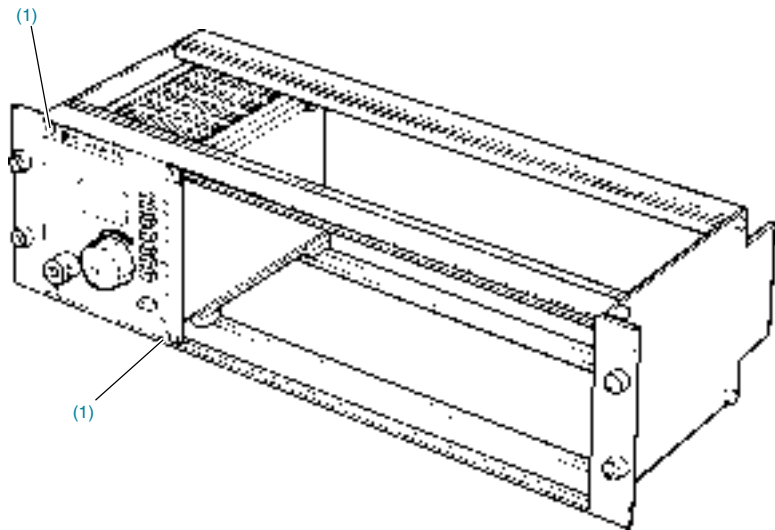

Figure 2-3 Euro Sub Rack Fitting
2.5 Fitting into Euro Rack (Figure 2-3)